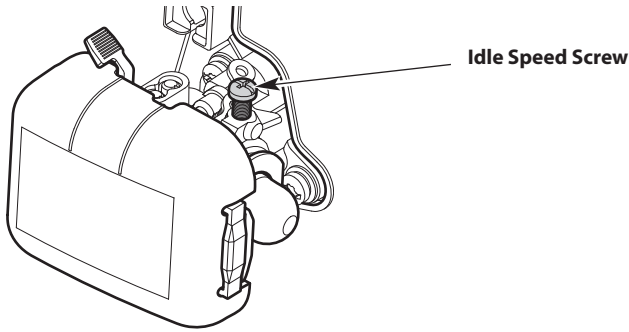

Fig. 8
- If the engine stops, increase the idle speed. Use a small Phillips screwdriver to turn the idle speed screw clockwise, 1/8 of a turn at a time, until the engine idles smoothly (Fig. 8).